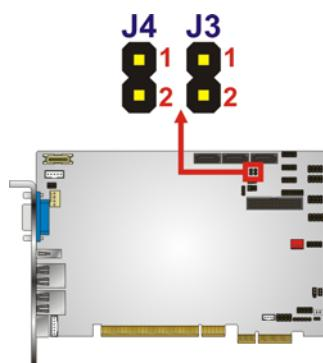

Figure 4-10: COM 3 RS-485 and RS422 Termination Select Jumper Location
**Jumper Location:** See Figure 4-10